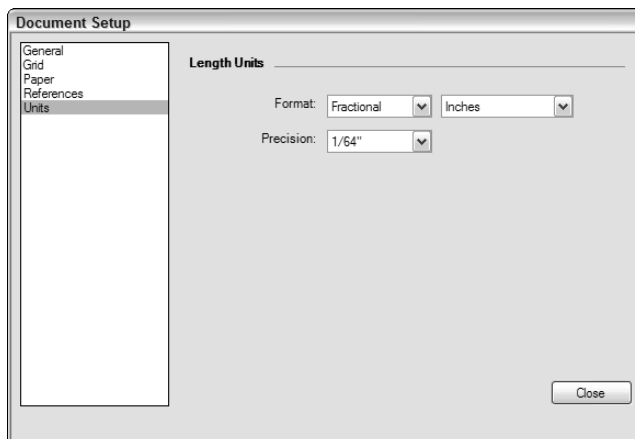

Figure 15-5:
6. Click **Units** in the panel list on the left, and select the type of measurement units you prefer to use, as shown in Figure 15-5.